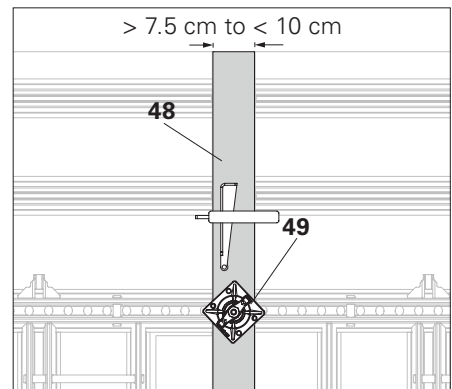

Fig. B4.01b
For Compensations between 7.5 cm and <10 cm, use Wingnut Pivot Plate DW 15 (49) art. no.: 030370 (Fig. B4.01b) or alternatively Compensation Waler HSA 95 can be used.